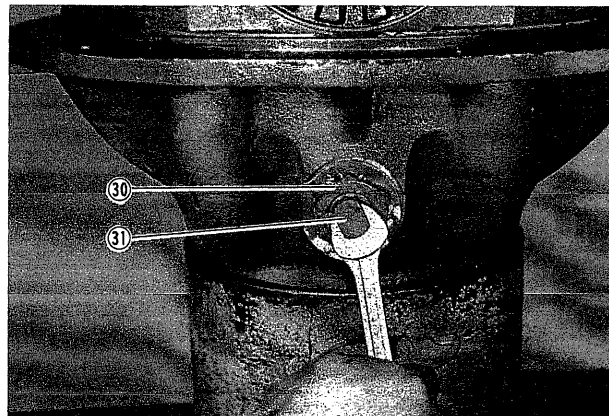

Fig. 56
- 1) Loosen lock nut (30) and remove thrust bolt (31). (Fig. 56)